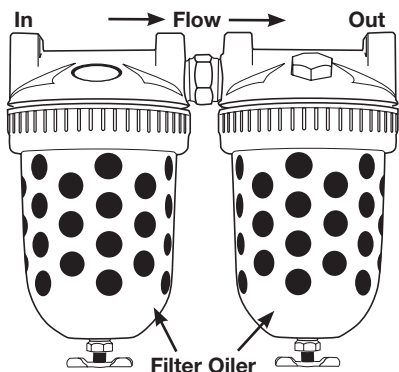

Figure 3- Air Filter and Lubricator Unit
3. A filter and lubricator unit (Figure 3) must be installed between air source and air hose leading to hoist. These keep the air flowing to the hoist free of dirt and adds lubricant to the air so internal parts of motor are constantly lubricated. Use air hoist motor oil or good grade 10W machine oil (approximate viscosity 150 SSU at 100°F). Multi-viscosity, detergent type engine oil is not recommended. Feed one drop of oil for every 50 to 75 cubic feet of air going through the air motor.